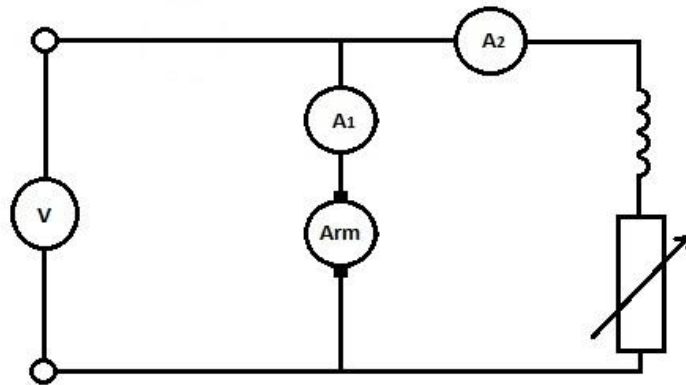

Figure 74
5. This motor can be modelled as a resistor in series with an inductor and an ideal power source. As shown below in Figure 74. The resistor acting as the internal resistance of the motor, the inductor acting as the induction due to the windings and the power source as the back e.m.f. It can be helpful to keep this model in mind when testing and fault-finding.